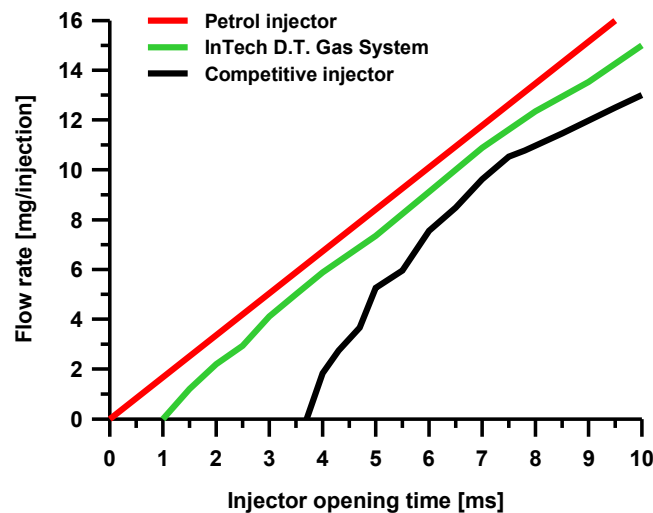

Fig. 2.2. Characteristics of InTech injectors
- Linear characteristics approximating the characteristics of petrol injectors (see Fig. 2.2.).
The central unit (Fig. 2.2) installed inside a car acts as a petrol/gas switch, and the indicator of gas level in the tank and informs about the kind of fuel a car is supplied with.
Figure 2.2. The cabin central unit: 1 – petrol/gas switch (B/G), 2 – diodes signalling gas level in the tank, 3 – diode signalling the petrol supply, 4 – diode signalling the gas supply.